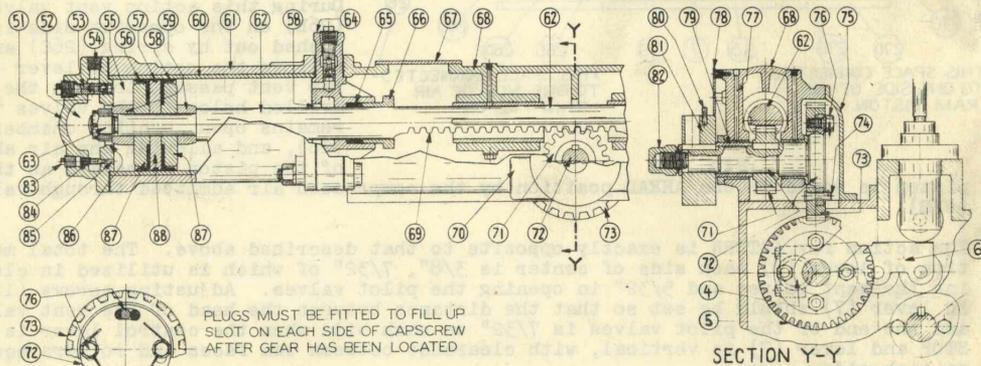

FIG. R-3
The power for rotating the latch shaft through  $180^\circ$  from the AHEAD to ASTERN positions or vice versa is supplied by an air ram, or double acting air piston, connected by means of a reversing rack and gearing to the latch shaft. It is located on the top of the latch box and is shown in detail on Fig. R-3.
Referring to Fig. R-3, housing (68), which is bolted to the top of the latch box, carries reversing rack (62) and pinion shaft (72) in replaceable bronze bushings. If renewed bushings must be reamed to 2.002" - 2.003" and 2.249" - 2.2505" diameter respectively after pressing in, and the oil holes must be drilled through the bushings in line with the holes in the housing. The unit is located on the latch box with the pinion shaft at the center of the engine, midway between cylinders 3 and 4. Cylinder (61) is provided with a bronze liner to prevent rusting, and is bolted together with front head (64), to the after end of housing (68). A stuffing box (65) and gland (66), accessible through cover plate (67), seal the piston rod
The travel of the piston is limited at each end by contact between followers (87) and the cylinder heads. In order to prevent shock the piston is cushioned at each end of its stroke by trapping part of the air ahead of it. Referring again to Fig. R-3 and assuming that air is being admitted to the right side of the piston from the pilot valve in the control housing, the piston will be moving toward the left. The air in front of it will be expelled through connection (54) and the pilot valve in the Control Unit, the vent valve of which will be open. As the piston approaches the end of its stroke collar (59) enters opening (86) in the head, closing it off, and traps the air in front of the piston. This trapped air must then pass through needle valve (85), which should be adjusted to produce the desired cushioning effect on the piston. Remove plug (83) to reach the needle valve for adjustment.
Check valve (53) is provided to admit air to the full face of the piston when it is to be returned to the opposite end of the cylinder. This valve is made necessary by the closing of opening (86) by collar (59), thus preventing air from chamber (52) reaching the full face of the piston until collar (59) clears the head. Valves (53) and (84) are duplicated in front head (64), but are not shown in Fig. R-3. The action of the piston at the front end of the cylinder is exactly the same as that described above. Valves (84) and (53) are not shown in their correct positions in Fig. R-3, valve (53) and connection (54) from the pilot valve actually being located on the horizontal centerline toward the engine in the back head and valve (84) 30° off the vertical. In the front head, both valves are in the top, 5/8" each side of the centerline, and the inlet connection from the pilot valve is on the horizontal centerline away from the engine.
Section YY in Fig. R-3 shows a transverse section through pinion shaft (72). This shaft, which is driven from reversing rack (62) by means of pinion (71) to which it is keyed, has a flange on its inner end to which is bolted helical gear (73). This gear meshes with a similar gear (5) on the latch shaft (4) and thus completes the connection between the air ram piston and the latch shaft. Housing (68) is located and doweled on the latch box so that these gears mesh properly, and if replaced the new housing must be carefully located, and new dowel holes drilled so that these gears are correctly meshed.
and the ASTERN aft. The pin rotates through the lower arc, and the reversing rack must therefore be moving aft (to the left in Fig. R-3) when the latch shaft is moving from ASTERN to AHEAD. The air must be admitted to the forward (or right hand in Fig. R-3) side of the piston to produce this motion, which puts the engine in AHEAD position. Therefore the ahead pilot valve in the control housing, (which is on the left or after side of the housing, as explained in paragraph 3) must be connected to the forward or front head of the ram cylinder. Conversely the astern valve is connected to the rear head. The position of the piston is aft when the engine is running AHEAD and forward when it is running ASTERN. (The above discussion holds true for both right and left hand engines.)
In Atlas engines the AHEAD and ASTERN cams are mounted side by side on the camshaft. Referring to Fig. R-3 it will be noted that latches equipped with two rollers are interposed between the cams and the valve lifter rollers. The two latch rollers are offset and lined up relative to the cams in such a manner that in the AHEAD position of the latches one set of rollers contact the AHEAD cams while at the same time the other set of rollers are free of the ASTERN cams. (Astern cam not shown in Fig. R-3.) Thus in the position shown in Fig. R-3 the AHEAD cams actuate the latches which in turn actuate the valves by means of the lifters, pushrods and rockers.